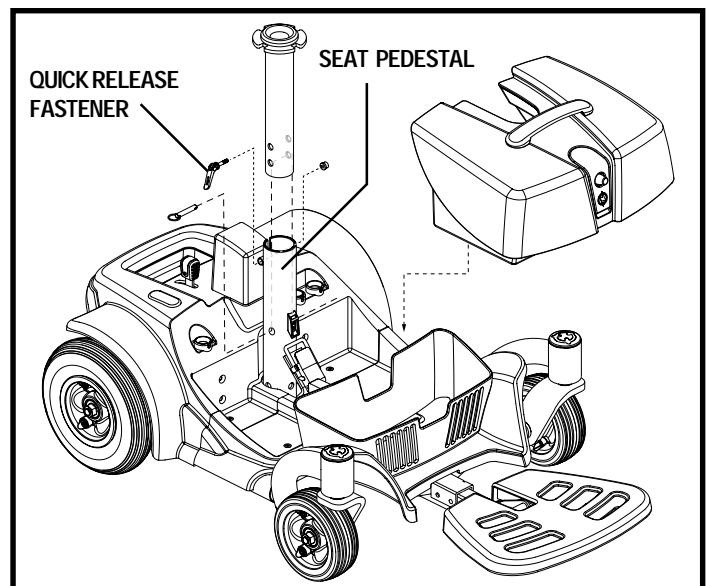
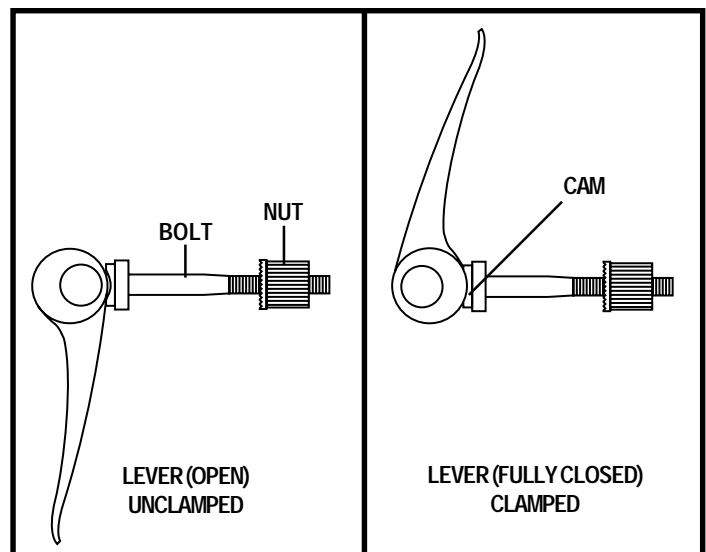

Figure 16. Seat Height Adjustment
Figure 17. Quick Release Fastener Operation
4. Loosen the quick release fastener. See figure 16.
8. Tighten the quick release fastener. See figure 17.
The quick release fastener removes excess play in the seat pedestal. See figure 16. The quick release fastener consists of a bolt, a lever, and a nut. See figure 17. The lever has a cam on the end that allows it to clamp into place. The quick release fastener has two states: clamped and unclamped. When the lever is open, the quick release fastener is unclamped. When the lever is closed, the quick release fastener is clamped.